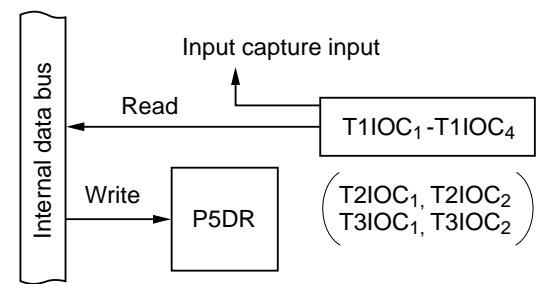

**Figure 10-32 Input Capture Combined with General-Purpose Output (Modes 1 to 7)**
**(4) Timer Input Combined with General-Purpose Output (Modes 1 to 7):** Figure 10-32 shows a block diagram illustrating the input capture function when combined with general-purpose output. Table 10-24 indicates register read/write data. An input capture pin can also function as an output port, in which case the output value is input to the timer.